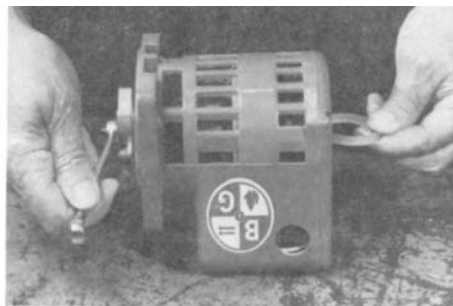

FIGURE 3
4. Place the pump on a flat work surface and insert the plastic assembly tool as shown in figure 3. Push forward until it engages and locks the rotor cooling fins. This allows for removal of the impeller.